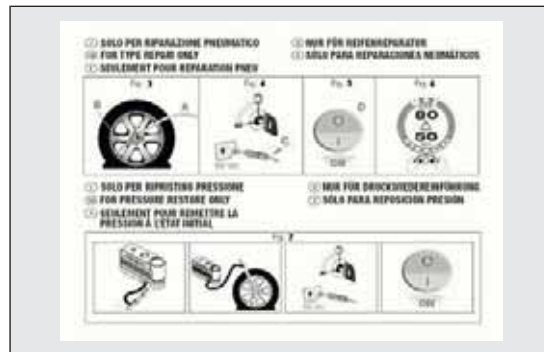

fig. 127
- ☐ instruction booklet (see fig. 127), to be used for prompt and proper use of the quick repair kit and to be then handed to the personnel charged with handling the treated tyre;